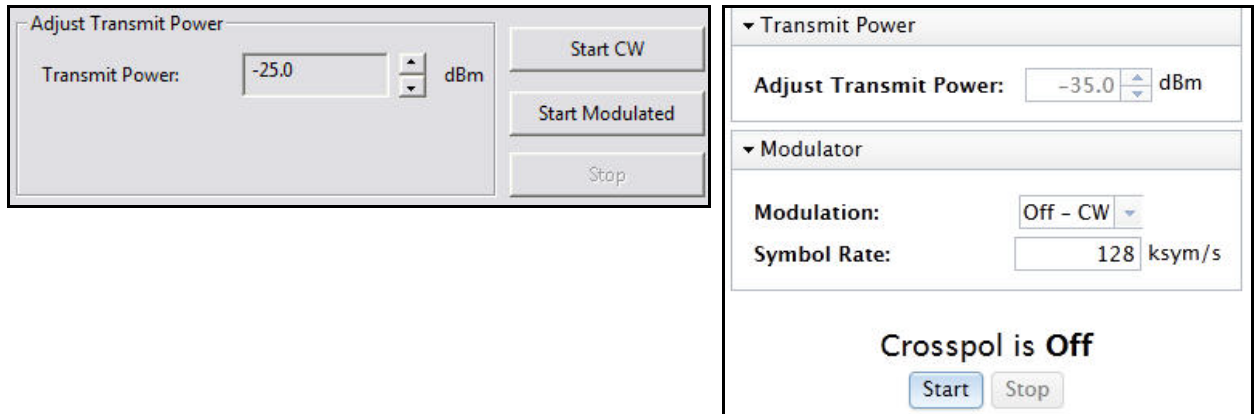

Figure 50. Adjusting Transmit Power using iSite and Web iSite
If using iSite, perform this procedure in the Adjust Transmit Power section of the Cross Polarization dialog box. If using Web iSite, perform this procedure in the Transmit Power section of the Cross Polarization page. Both options are shown in Figure 50.
3. Start the Transmit Power at the CW P1dB power level. (Refer to Figure 50 on page 87.)